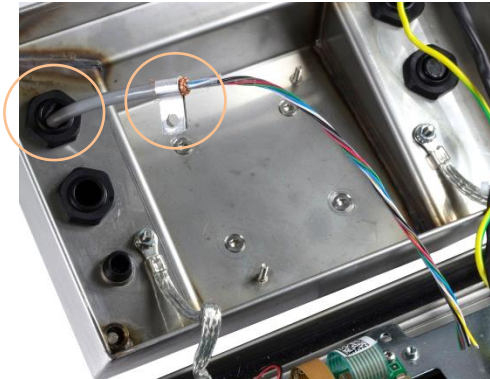

Figure 2-31: Load Cell Cable Entering IND236 Enclosure, with Chassis Ground Clip
17. The load cell cable is routed into the enclosure through the cable gland indicated in Figure 2-31.